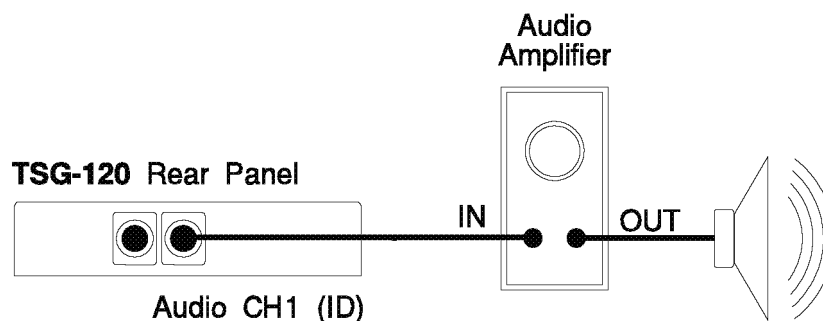

Figure 4-2: ID click frequency test setup
- a. Connect the equipment as shown in Figure 4-2.